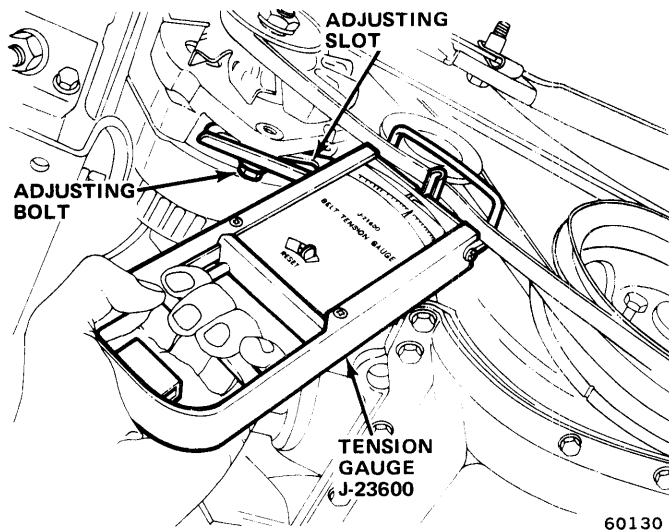

Fig. 2-12 Checking Drive Belt Tension—Typical
(3) Check belt tension using Tension Gauge J-23600 (fig. 2-12).
(4) Tighten adjusting bolt to 18 foot-pounds torque and pivot bolt to 28 foot-pounds torque.
(5) Check belt tension using Tension Gauge J-23600 (fig. 2-12). Correct if necessary.
(6) Tighten adjusting bolt to 18 foot-pounds torque, and tighten mounting bolts to 28 foot-pounds torque. If equipped with back idler, tighten to 33 foot-pounds torque.